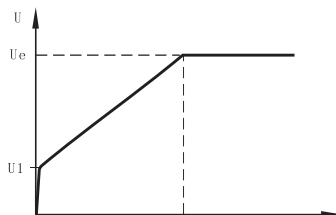

Figure 12-2-1
- The soft starter will be under voltage starting mode when code F9 is set to 1 (voltage). Figure 12-2-1 shows the output voltage wave of the output ramp starting.  $U_1$  is the starting voltage value at start, when the motor starts, if the current of the motor is within the range of the rated value 400%, the output voltage of the soft starter will increase to  $U_1$  rapidly, then the starting parameter set according to the output voltage will rise gradually, and the motor will accelerate smoothly with the rising of the voltage and reach the rated rotation speed when the voltage reaches the rated voltage  $U_e$ , then the inbuilt bypass contactor will close and the whole starting process completes.